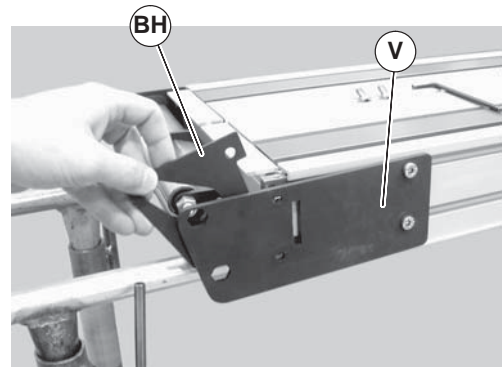

Figure 67
3. Pull back the outer headplate (Figure 67, item V) and remove the inner spacer (BH).